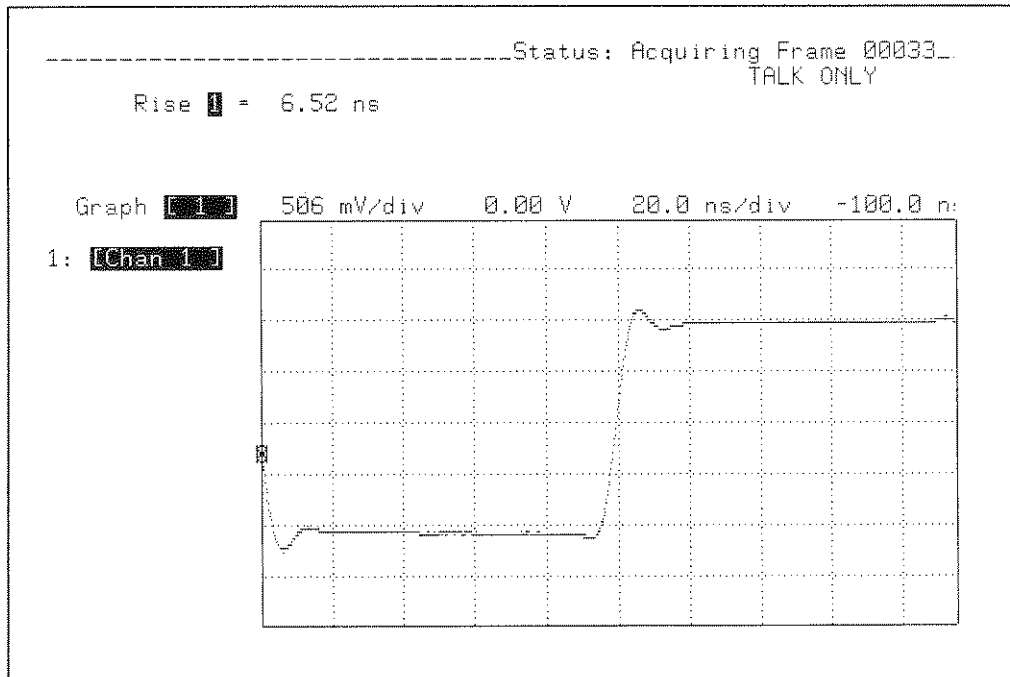

Figure 9-8. DISPLAY Waveform
4. The waveform should appear as shown in figure 9-8.